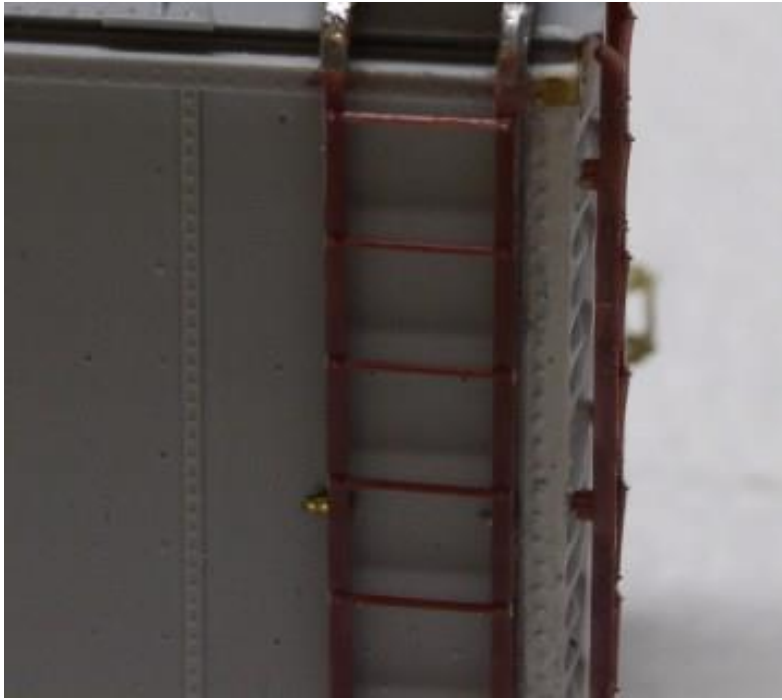

Figure BD18
23. Use Squadron Putty or 3M Body Putty to fill in the gaps where the end lateral running board supports meet the tops of the ladder stiles. Sand using progressing finer degrees of sandpaper from 320 to 800. This will make the joint . See Figure BD18.